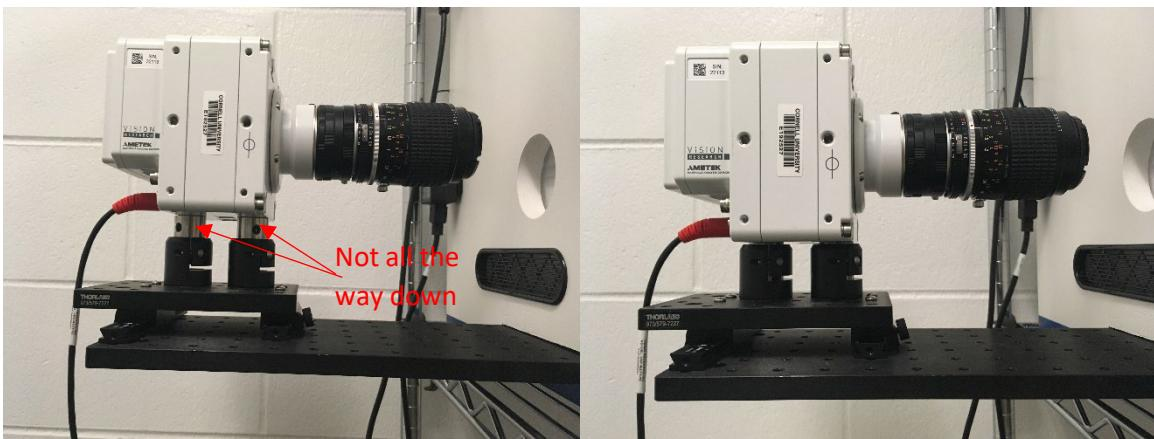

Figure 124 Installing the camera on the camera mounting platform. Left: Camera not completely seated. Right: Camera correctly seated.
- See Figure 124 for the camera mounting process.